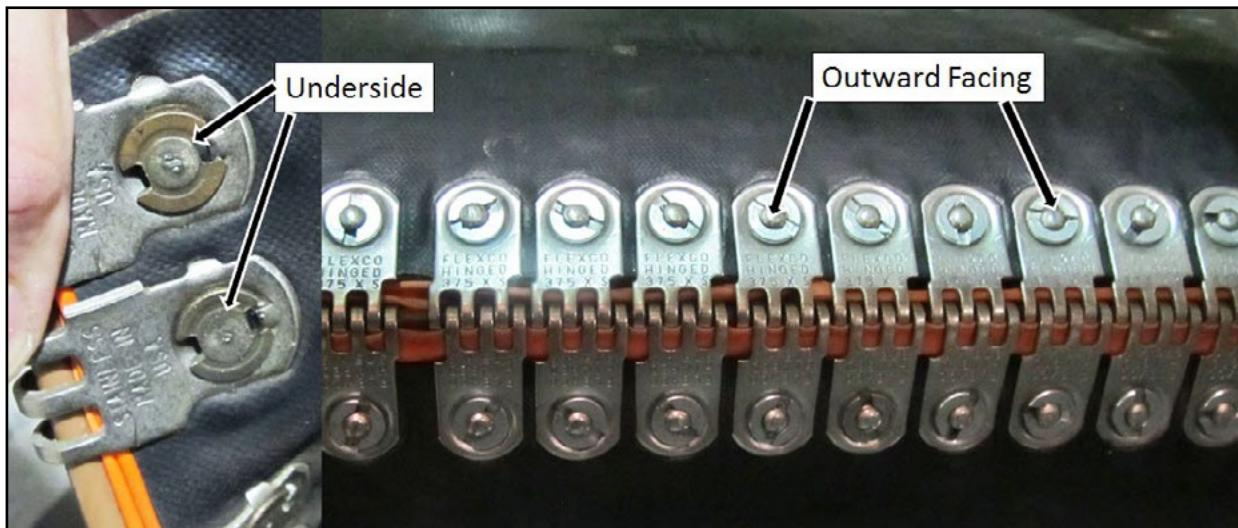

Figure 8 - Belt splice facing
9. Ensure belt is threaded properly with bottom of rivet facing outward as shown in Figure 8. Thread the rope along the top of the belt channel, around the front idler pulley, over the snubber pulley, and under the drive pulley.